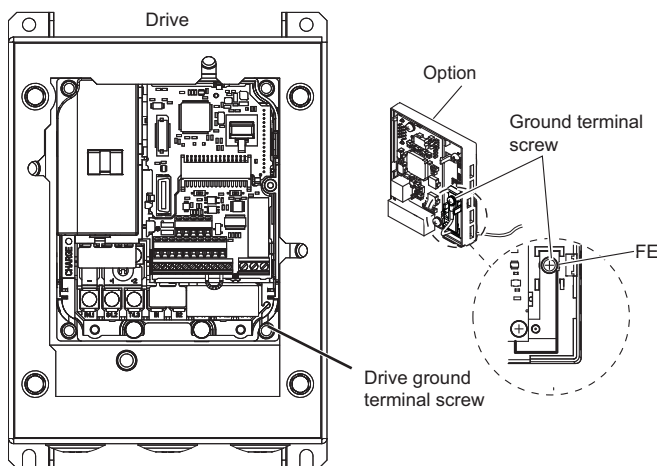

Figure 15 Remove IP66/UL Type 4X Ground Terminal Screw
- 13.** For IP66/UL Type 4X enclosure models, remove the drive ground terminal screw and option ground terminal screw (see Figure 15.)